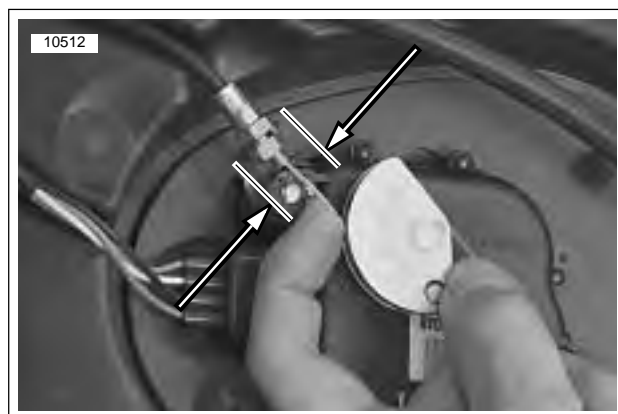

Figure 1-45. Checking For 1/8 in. (3.18) Maximum Free Play In Either Direction For Proper Adjustment
9. See Figure 1-45. Adjust interactive exhaust cable as follows: